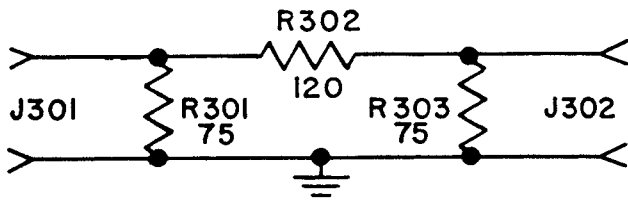

Figure 2-10. Schematic Diagram of the (5:1) Fixed Attenuator CN-223/URM-25D
(See figure 2-10)
a. The schematic diagram of the 5:1 fixed attenuator is shown in figure 2-10. This attenuator is designed to be used when the input impedance of the receiver under test is 50 ohms, and consists of three resistors (R301, R302, R303) connected in a pi-network to give an equivalent resistance of 50 ohms when properly terminated in 50 ohms. It can readily be calculated that the output terminal voltage of this attenuator unit will be